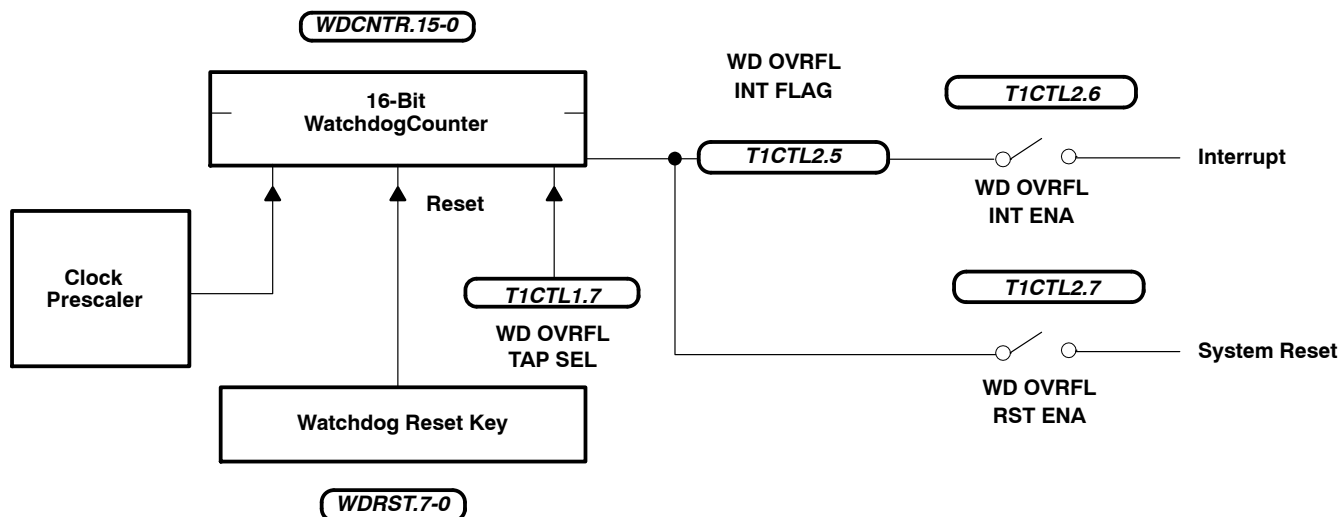

Figure 9. Standard watchdog
- Standard watchdog configuration (see Figure 9) for mask-ROM devices: